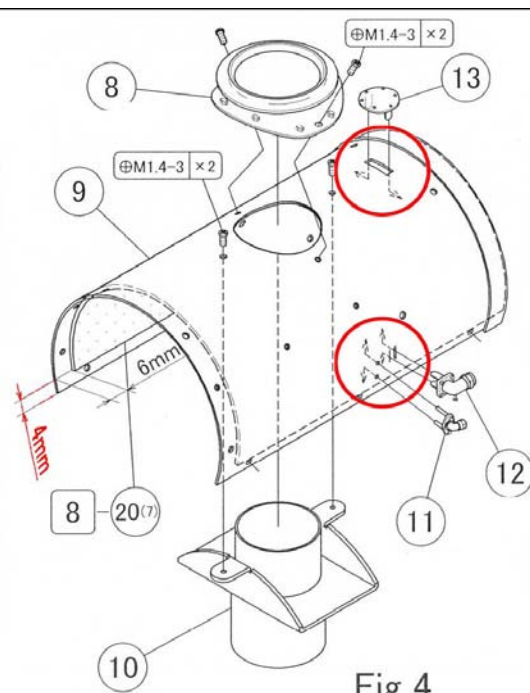

Fig 4
2) After assembling the parts as per Fig. 4, if you find the +M1.4-6 is too long then file off them at the end.